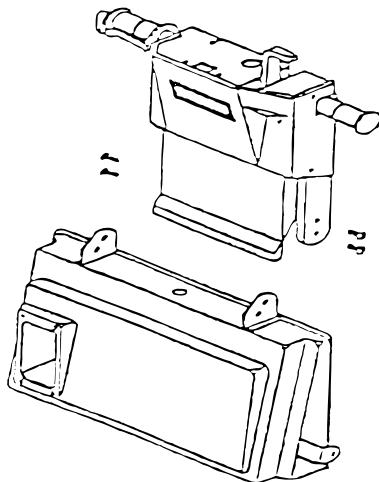

FIG. 2.
2. Mounting the handlebar (Figure 2).